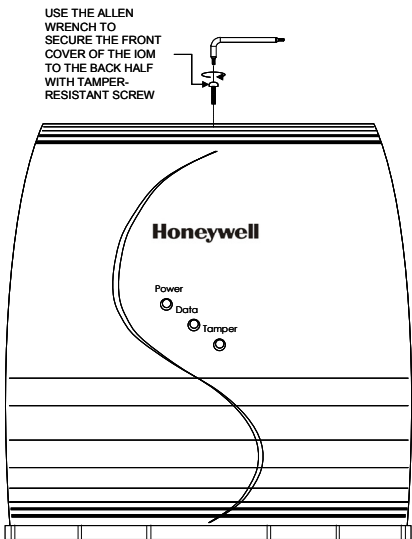

Fig.16. Securing the front cover onto the back half of the IOM
7. Use the Allen wrench to tighten the tamper-resistant screw at the top of the IOM enclosure. See **Fig.16**.